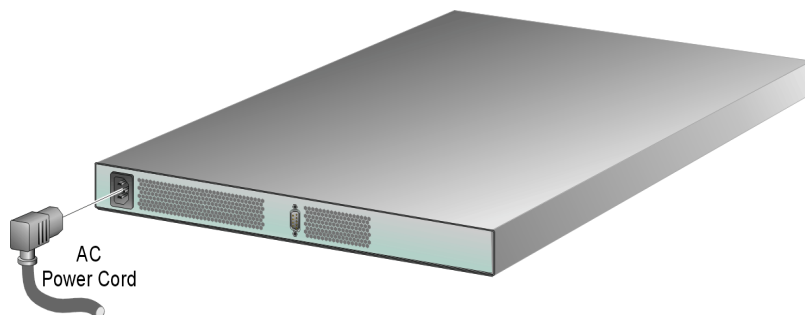

Figure 2-1 AC Power Connection
4. Connect the AC power cord to the receptacle at the rear of the chassis as shown in Figure 2-1 on page 2-5.
5. Connect the AC power cord to the receptacle at the rear of the chassis as shown in Figure 2-1 on page 2-5.